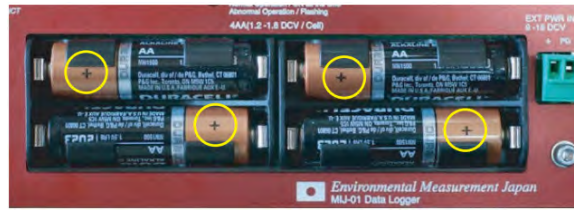

Figure2.
2.2 Insert the batteries as figure 2 shown. As long as it has an AA shape, you can use any secondary battery such as alkali, lithium, eneloop, etc., but please use the one that does not exceed 1.8V / cell. Pay attention to the orientation of the positive pole.